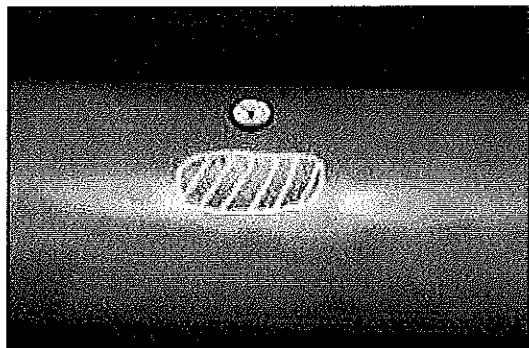

Figure 5
- 4.6 Obtain the ambient and pipe surface temperatures (Figure 5). If the pipe temperature is less than 32°F (0°C) or greater than 100°F (33°C), contact the Clock Spring Company, L.P., or their representative for special instructions. Use the highest temperature obtained to determine appropriate ratio of activator needed for filler and adhesive. Refer to the chart on the adhesive container or filler tube for the proper mix ratio. Thoroughly mix the adhesive with the blue colored activator and the filler with the orange colored activator until both mixtures are uniform in color and without streaks (Figures 6 and 7). Mix for approximately 2 – 3 minutes. Note that the working time has begun once the activator is mixed. Appendix H contains additional detailed mixing instructions.